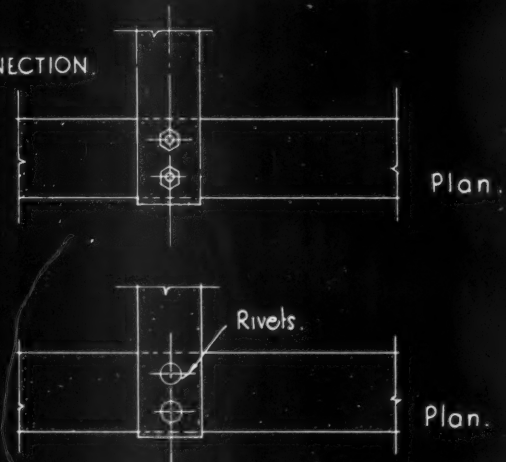

FIGURE 4 : RIVETED CONNECTION.
4. By replacing these bolts by a length of hot rod, which can be of such a shape that after cooling it cannot be removed (i.e., a rivet). Figure 4.